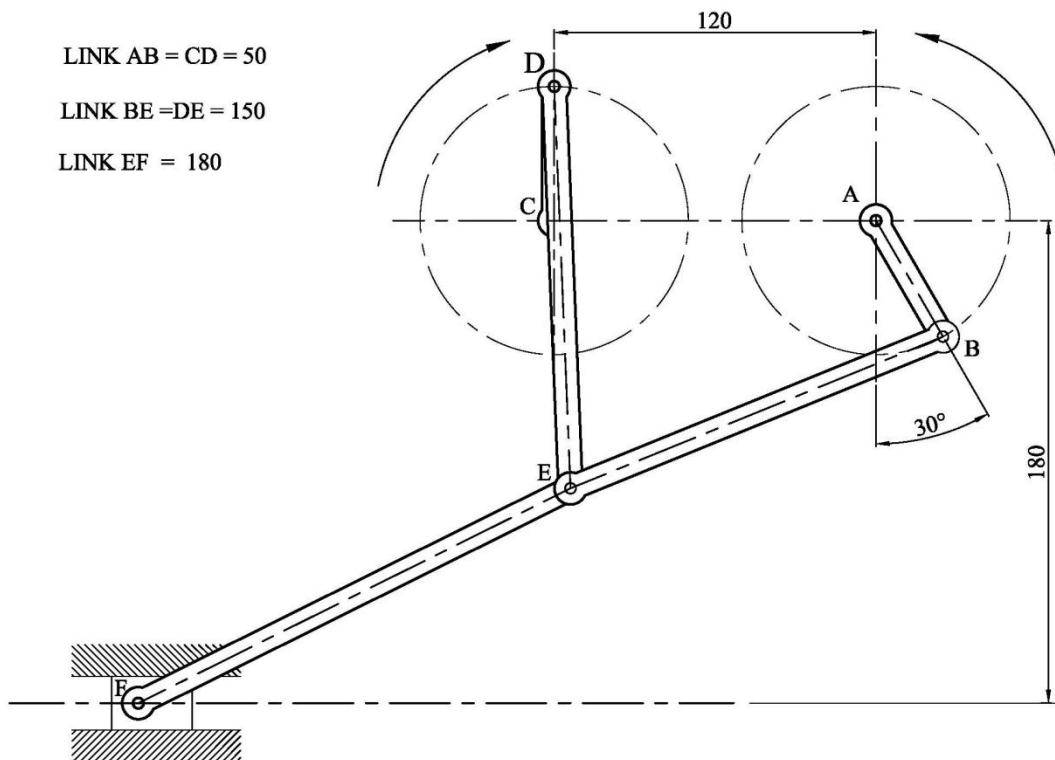

Figure 1b
- a) Refer to Figure 1b and copy the two cranks AB and CD and draw the locus of the end points B and D. Link BE is pin-jointed at B and link DE is pin-jointed at D. The ends of both links are pin-jointed together at E. Trace the locus of the point E. (7)
- b) Another link EF is pin-jointed to the two links at E while the other end F is connected to a piston sliding along a horizontal line. Draw the displacement of point F. Measure and state the length of the stroke. (4)
- c) Show the positions of points F and E when D turns 60° clockwise. (2)